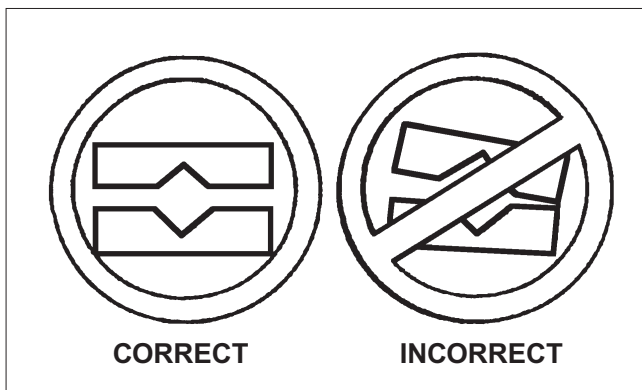

Figure 5.
12. Reinstall the lock arm (45) over the shaft (4) until it rests on Surface A of the latch pawl (54). Tighten the nut (48) with 27 – 33 FT•LBS (37 – 45 N•m) of torque. With the lock arm flush against the latching surface (Surface B), and the disc in a level position, no adjustment should be required if the latch stand (49) has not been moved. If the latch stand has been moved, be certain the latch pawl (54) is squared with the lock arm (45). Tighten the nuts (53) to 100 – 115 IN•LBS (11.3 – 13 N•m) of torque. Apply a 1/8" by 1/4" (3.2 mm by 6.3 mm) long weld bead at the joint between the body and the bottom of the latch stand as was done during the original assembly at the factory.
13. Reinstall the handle (H1) on the shaft until the latch wire (H6) rests firmly on Surface C of the latch pawl (54). Do not push the handle assembly down so far that it pushes the latch down. Tighten the (H8) Nyloc® cap screws (Grade 8) with 14 – 20 FT•LBS (10 – 27 N•m) of torque. Make sure the handle (H1), handle cap (H13) and shaft (4) are properly aligned as in (Figure 5). Reinstall the retaining ring (76). Try locking and unlocking the handle two or three times to ensure that it operates properly.